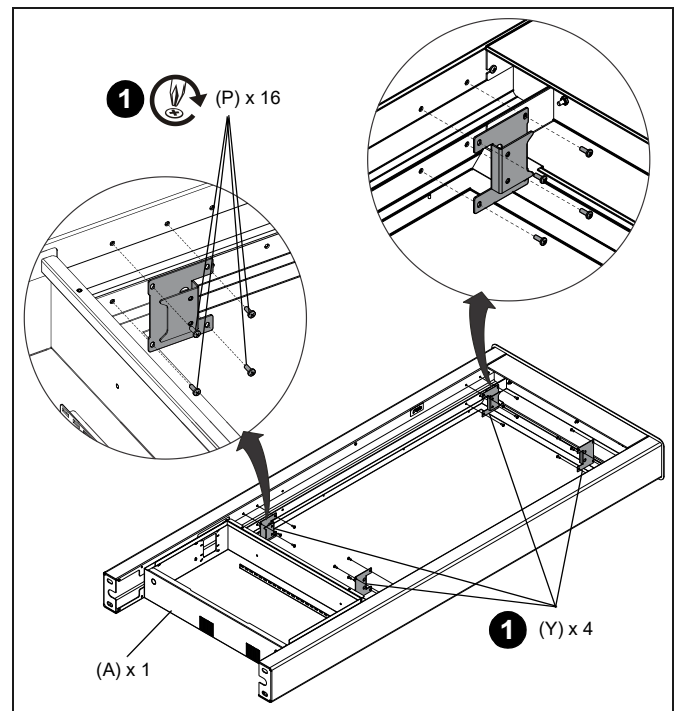

Figure 4
1. Install four interface plates (Y) to inside of kiosk frame (A) using four 10-24 x 1/2" screws (P) per plate.
NOTE: The orientation of the plates installed towards to top of the kiosk frame (A) is opposite of the plates installed towards the bottom of the frame. (See Figure 4)